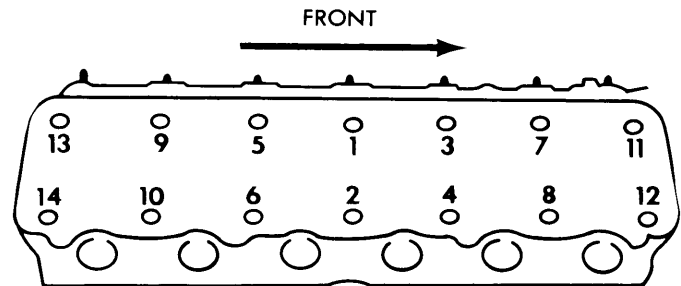

Fig. 1 Cylinder Head Tightening Sequence.
**Installation** - Clean all gasket surfaces and coat new gasket with suitable sealer. Install gasket and cylinder head on block and tighten head bolts in two steps. See Fig. 1.